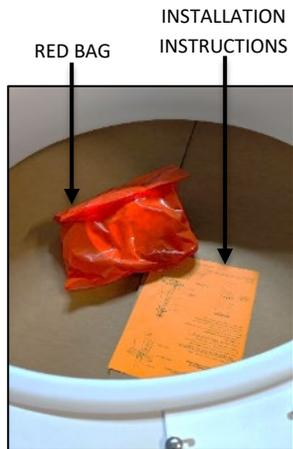

FIG.4 RED BAG AND INSTALLATION INSTRUCTIONS
3. INSTALLATION INSTRUCTIONS (shown in FIG. 4) - Please completely read the install instructions before starting installation.
4. RED BAG (shown in FIG. 4) contains below following items